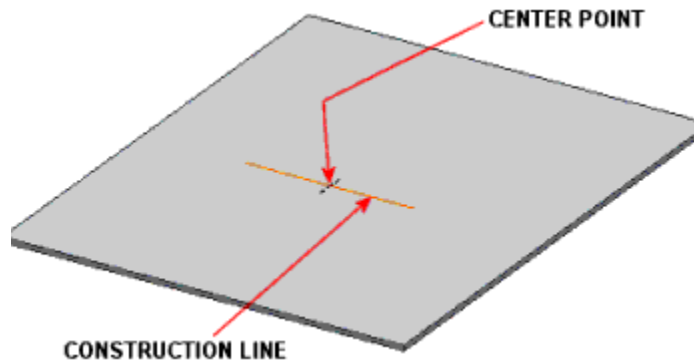

Figure 5: Interface sketch.
1. Sketch a horizontal construction line similar to the one shown in Figure 5.
3. Place a hole center at the midpoint of the construction line as shown in Figure 5.